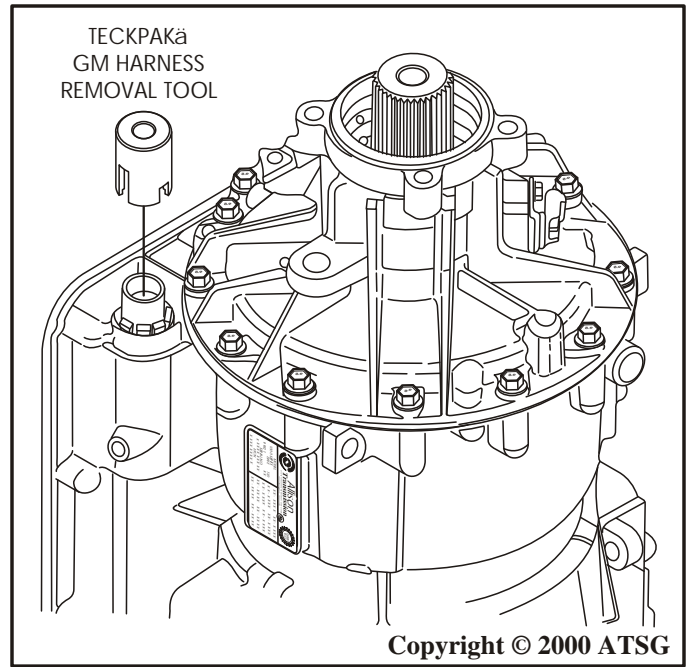

Figure 49
15. Remove the pass through case connector from the case bore using the Teckpakä GM harness removal tool, as shown in Figure 49.